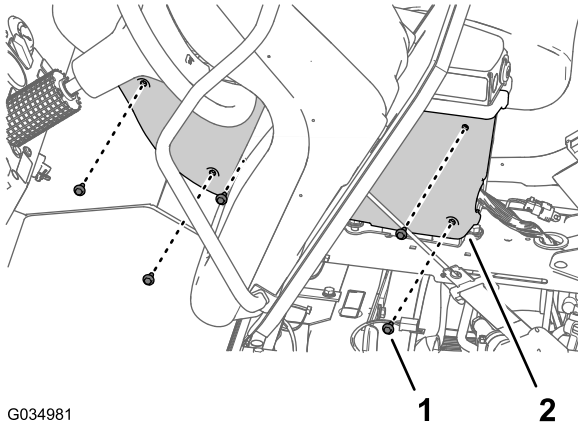

Figure 98
7. Assemble the cover to the center console with the 5 flange-head bolts (1/4 x 3/4 inch) previously removed (Figure 98), and torque the bolts to 520 to 678 N·cm (46 to 60 in-lb).